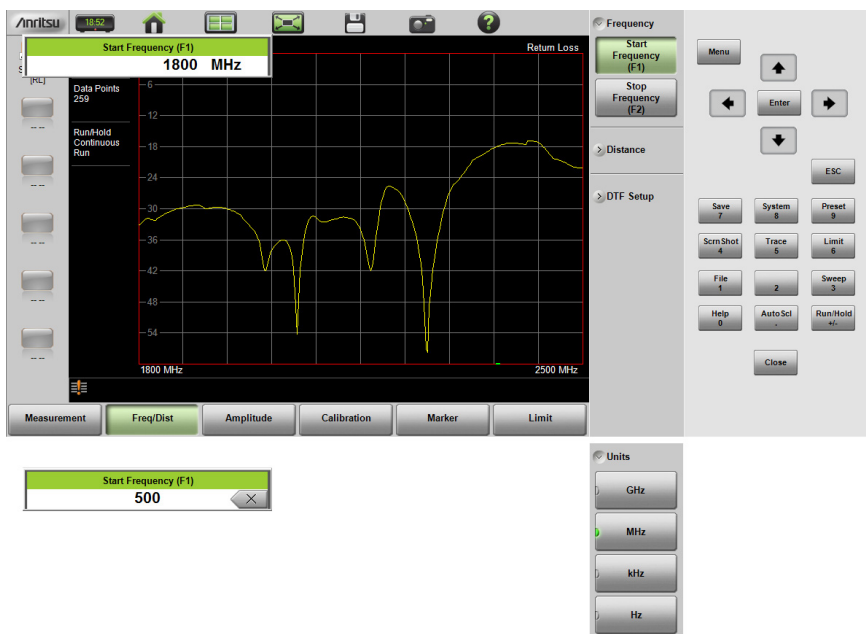

Figure 3-20. Entering Frequency Setting
2. Press the **Start Frequency** submenu key and use the virtual keypad to enter the value in the edit box. See Figure 3-20.